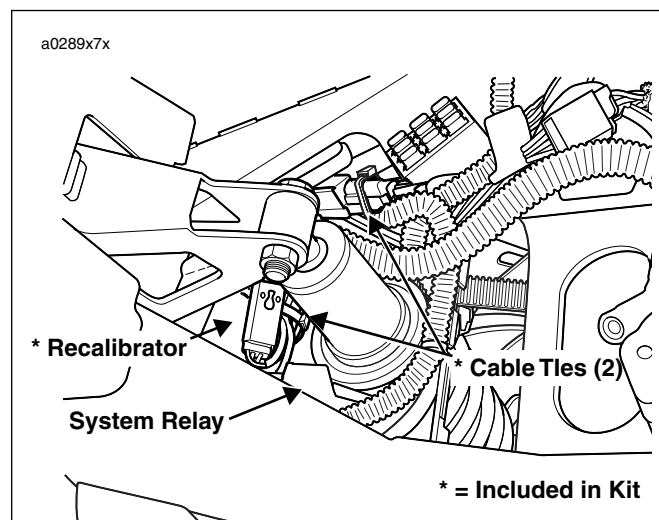

Figure 6. Securing Wire Harnesses
5. See Figure 6. Using cable tie provided in kit, secure speed sensor connector [65B]/recalibrator bundle to system relay wire harness in front of shock absorber.